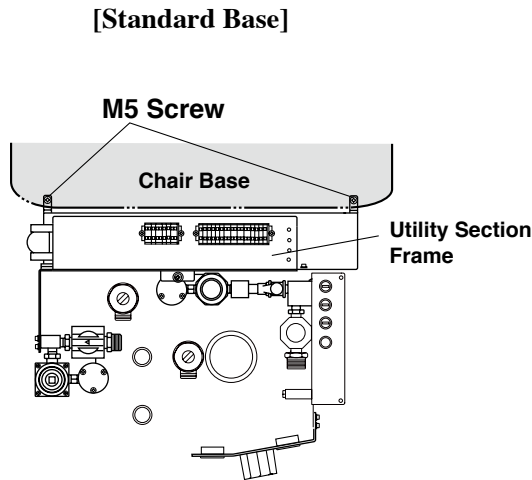

Fig.6-8a Utility Section Frame Installation
C. Fix the utility section frame to the chair base with 2 x M5 screws. (Fig.6-8a)